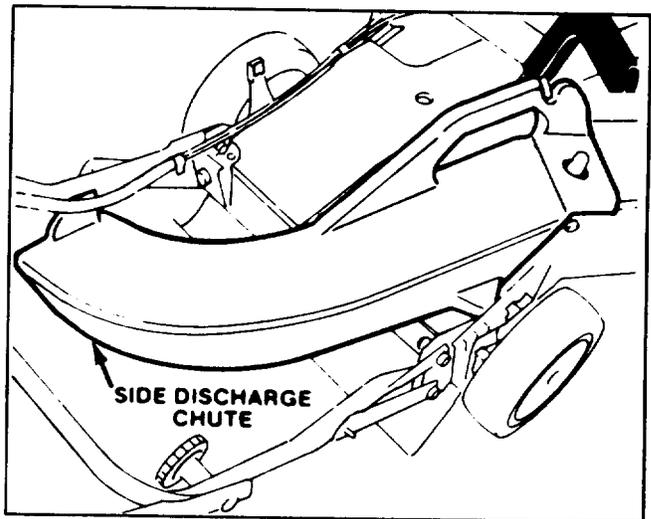

Figure 26
2. **Side Discharge Kit, Model 59168**—(requires Rear Bagging Kit, Model 59174). Installs in seconds. Rear mounted in place of grass bag or discharge tunnel plug. Disperses clippings while trimming on both sides (Fig. 26).